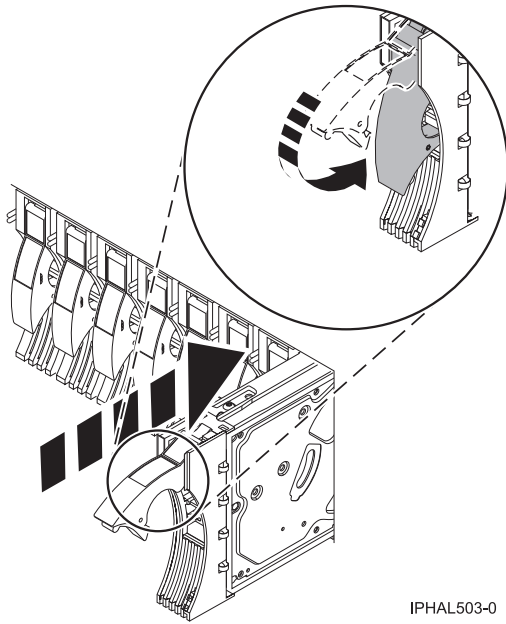

Figure 102. Installing a disk drive in a model a model or 7311-D20
- c. Push the disk drive handle in until it locks, as shown in Figure 102 on page 118.